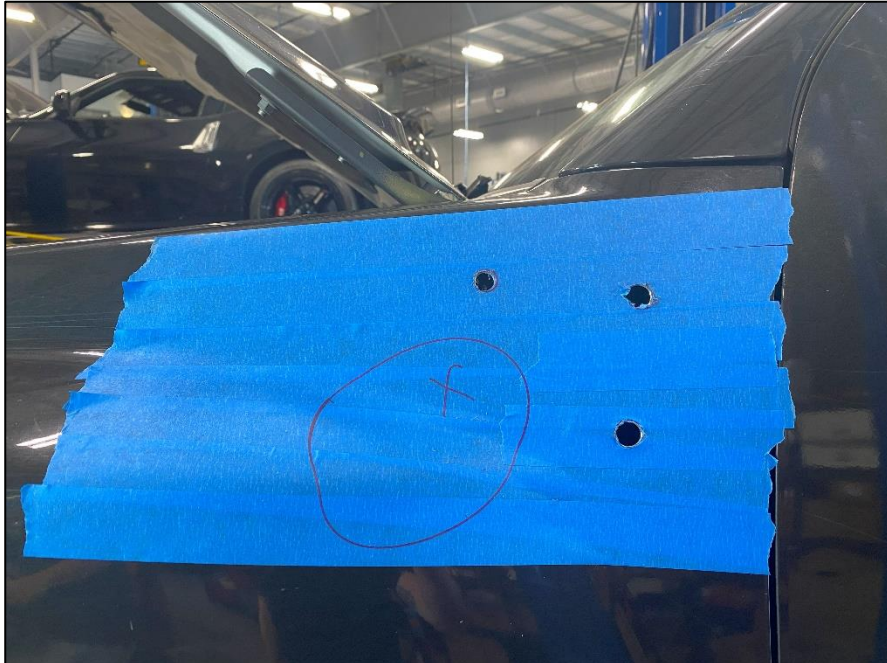

Figure 8
11. Using a Center Punch or Drill, mark the Center of the (3) three smaller holes marked in *Step 9.*
12. Drill out the (3) three smaller holes to 5/8". A Step Bit is preferred, but if you do not have one, slowly work your way up to the bigger Drill Bits. *Figure 8.*